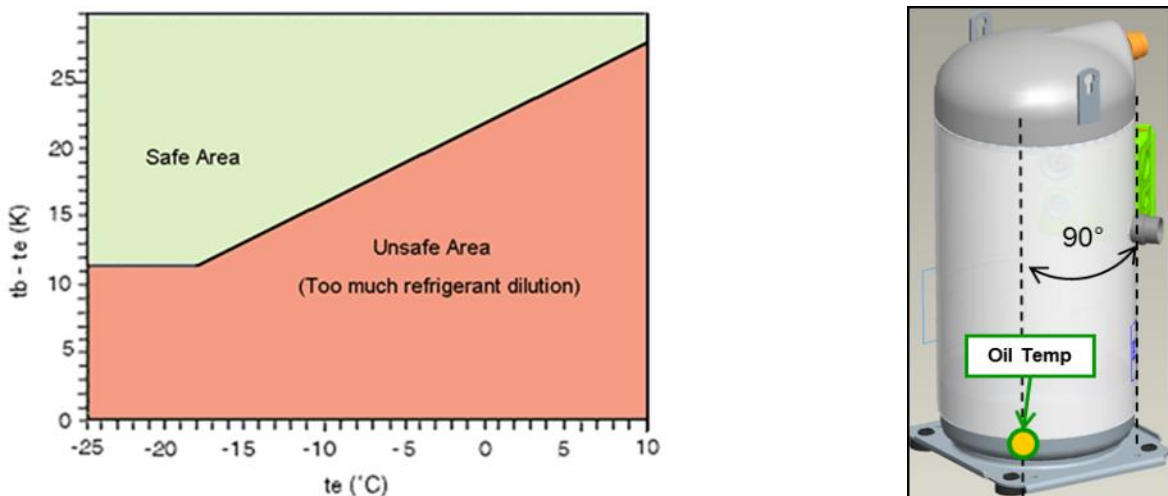

Figure 12: Oil dilution chart (t_b = bottom shell temperature; t_e = evaporating temperature) and position for oil temperature sensor
- **In all systems:** to test liquid floodback and oil dilution, all possible transient operation conditions in the system should be checked, eg, compressor frequent start/stop, compressor start after long off time with migration, defrost, switching between the operation modes in reversible systems, load changes, fans or pumps cycling at low load and more. To evaluate the risk of liquid floodback and oil dilution, please refer to the chart in **Figure 12**.
The bottom shell temperature together with the evaporating temperature gives an indication whether liquid refrigerant is returning or diluted in the compressor oil sump. The compressor sump temperature must remain in the (green) safe area, as shown in the chart in **Figure 12** below. In case of operation in the (red) unsafe area, adjustments are required in order to modify the system design, refrigerant charge or superheat setting of the expansion device(s). The bottom shell temperature should be measured accurately. The thermo-probe must be insulated well and positioned on the opposite side of the sight glass or at an angle of 90° clockwise from the suction inlet with view on the top.